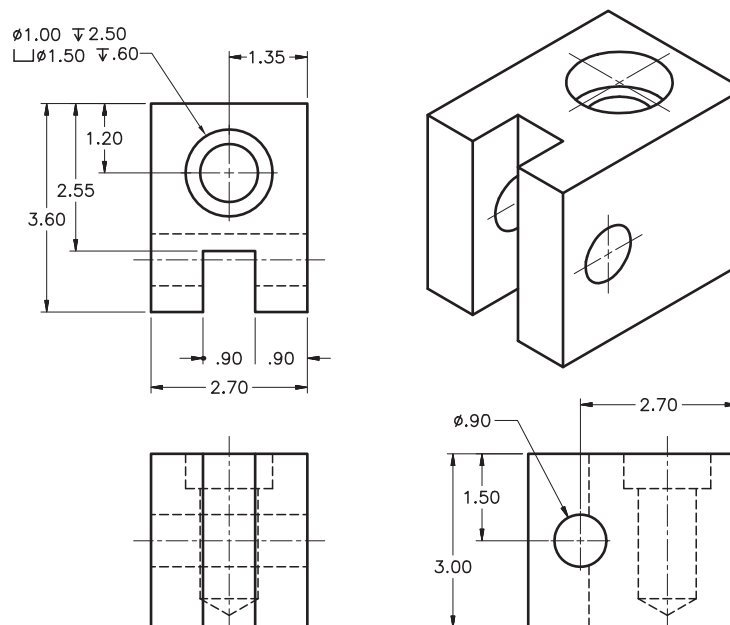

Fig. 19-11
5. Draw the right-side view of the slider shown in Fig. 19-11 as a full section view. Assume the material to be aluminum. See Appendix D for a table of dimensioning symbols. For additional practice, draw the top view as a full section view.